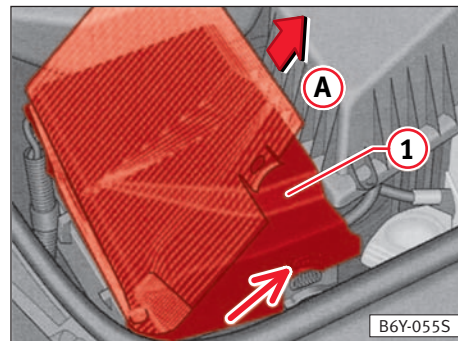

Fig. 126
- Gently pull the lateral flanges of the battery cover ⇒ arrow, fig. 126. Lift the cover to about 45° and remove it by pulling in the direction of arrow ①.